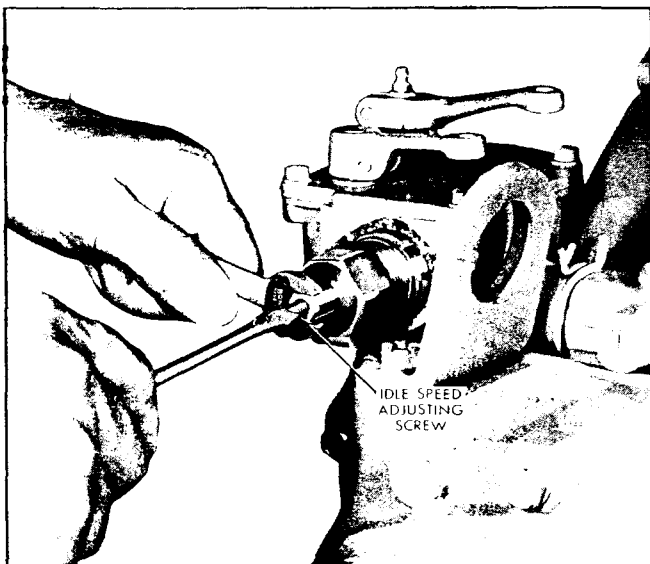
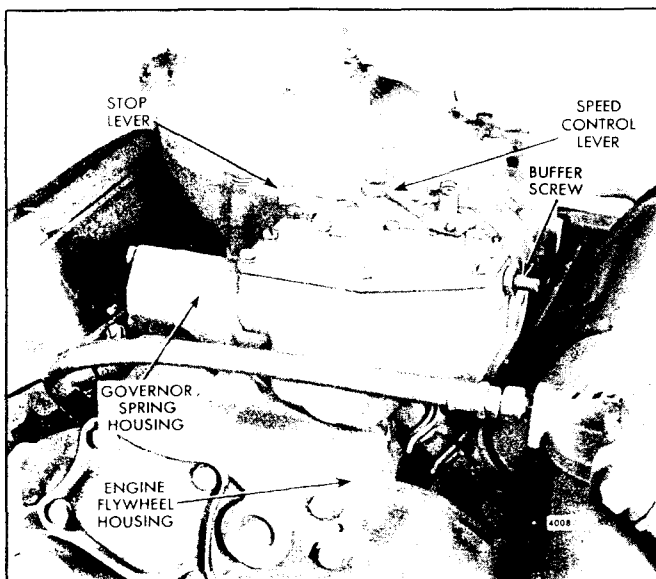

Fig. 5 - Adjusting Engine Idle Speed
Fig. 1 - Limiting Speed Governor Mounting
1. With the engine running at normal operating temperature and with the buffer screw backed out to avoid contact with the differential lever, turn the idle speed adjusting screw (Fig. 5) until the engine idles at the recommended idle speed.
The limiting speed mechanical governor is mounted at the rear of the engine, between the flywheel housing and the blower (Fig. 1). The governor is driven by the right blower rotor drive gear. The left blower rotor drive gear is driven by a shaft, that passes through the governor housing, from the engine gear train. There are two types of limiting speed governor assemblies. The difference in the two governors is in the spring mechanism (Fig. 5). One has a long spring mechanism, the other has a short spring mechanism for certain vehicle engine applications.